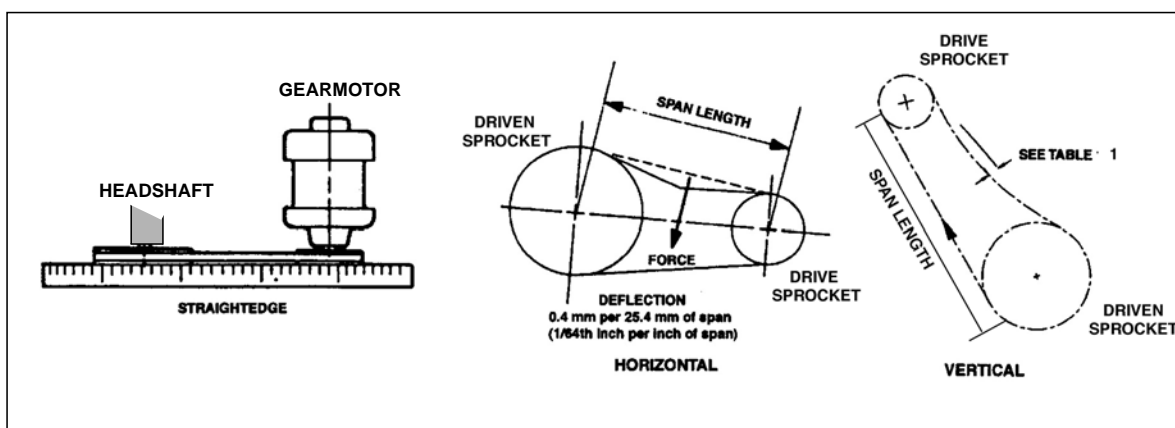

Figure 2. Gearmotor Alignment and Drive Chain Tension Adjustment
1. Using the gearmotor mounting bolts, tension the drive chain according to Figure 2 and Table 1. Check sprocket alignment using a straight edge or taut cord stretched across the faces of the drive sprocket and the driven sprocket (Figure 2). The tolerance is 1/8" per foot (± 0.5 degrees or 3.5 mm per 0.3 m).